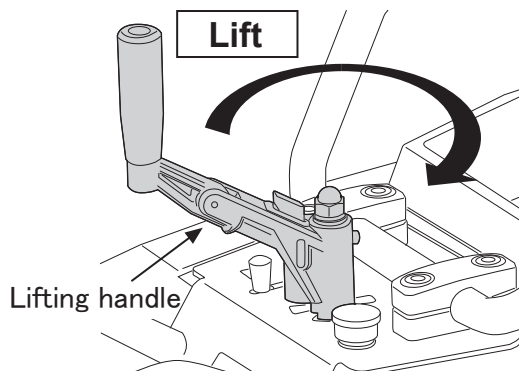

Fig.16
2. Turn the lifting handle clockwise until the blade is lifted to the maximum height. (Fig.16)